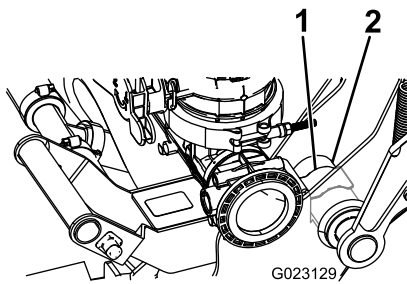

Figure 13
- D. Push until the spring clip snaps over the pivot tube as shown in Figure 13.